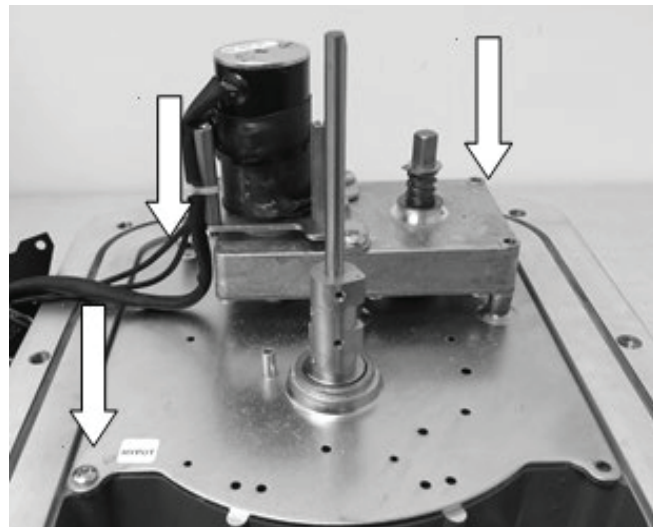

Figure 23.
- 4.25 Install the 3 motor support plate screws for LADC models, or 5 screws for ADC models, to secure the motor support plate back onto the base casting, see Figure 23 (note that LADC model is shown).